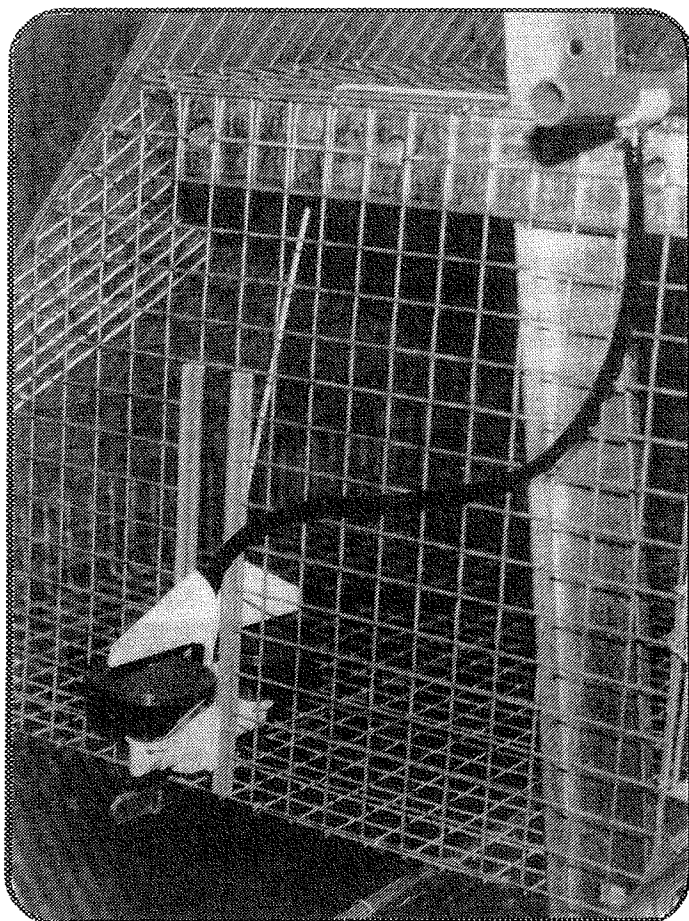

Figure 28.
2. Insert the Cup Assembly through the waterer cutout and snap the grooves in the sides over the Edge Guards. See Figure 28.